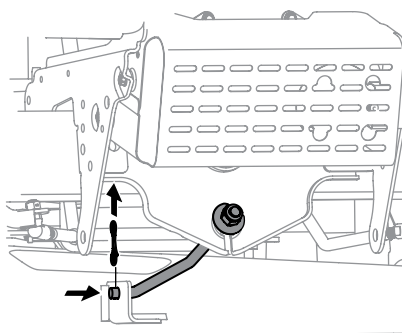

Figure 4-14
- On **42" and 46" decks**, remove the bow-tie pin securing the deck stabilizer rod to the deck. Slide the deck lift rod from the mounting weldment on the deck as seen in Figure 4-14.